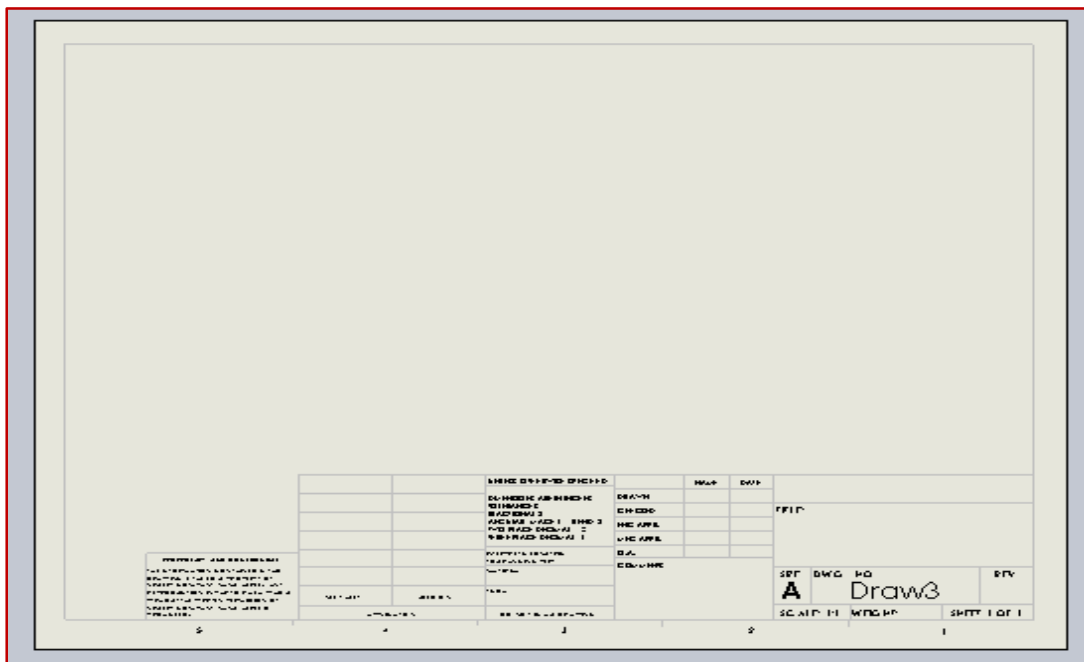

Figure 12.2b – New Drawing Document
- ✓ You will get the Drawing document on Figure 12.2b.
- ✓ Your screen should look like Figure 12.2b.